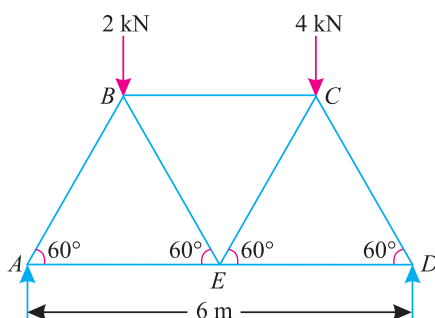

Fig. 13.8.
**Example 13.2.** Fig 13.8 shows a Warren girder consisting of seven members each of 3 m length freely supported at its end points.